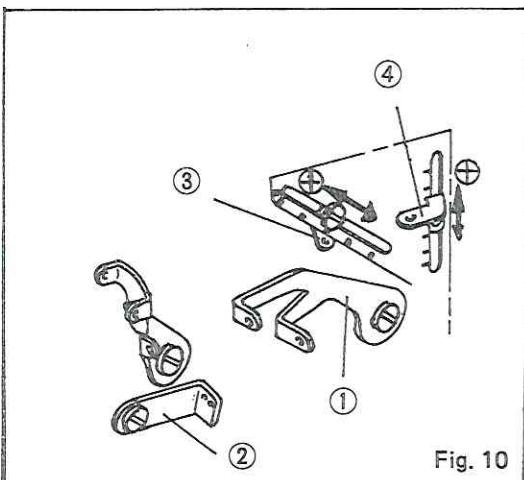

Fig. 10
(3) Looper Thread Control Fig. 10
- For sewing type 512, when Upper Looper is extremely left, push Takeup ① and ② at the position as the chain line (— —).
- In case of sewing type 503, 504, & 505, when Upper Looper moves to lowest, set Takeup ① and ② at the position as the continuous line (— — — — —).
- Adjust Thread Guide ③ as follows.
Control hilo-áncora. Fig. 10
Contrôle du fil du boucleur Fig. 10